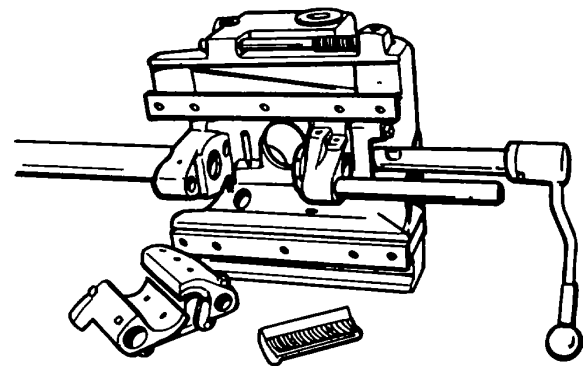
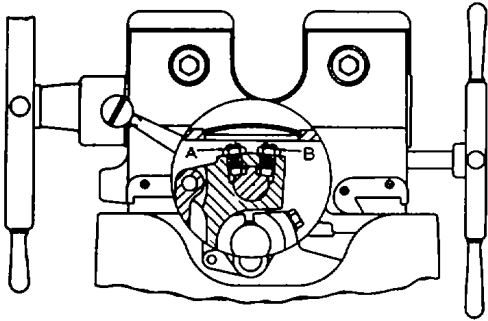

Figure 7
Figure 8
(3) After removing, place the carriage on a bench in a convenient working position as illustrated by Figure 7. Remove the welsh plug in the top of the carriage and loosen screws A and B, Figure 8, until the leadscrew operating shaft can be withdrawn from the leadscrew jaw. Loosen the retaining screw and withdraw the lower leadscrew jaw shaft so the entire jaw assembly can be removed. The leadscrew nut segments can now be easily disengaged by removing three screws. Note that each segment is positioned in the jaw by a locating pin.
(4) To replace the jaw assembly, it is necessary to remove the leadscrew self oiling mechanism. Also, it may be necessary to adjust the nut adjusting bushing to eliminate excessive end play between the carriage and the nut segments. See Leadscrew Nut Segments.
(5) After the carriage has been returned to the machine, the leadscrew nut lever will require adjustment to provide the proper overtravel. To accomplish this, close the leadscrew nuts on the leadscrew and loosen the lock nuts on screws A and B as shown in Figure 8. Withdraw screw A several turns and tighten screw "B" until there is no overtravel or movement in the leadscrew lever. Then, loosen screw B 1/6 of a turn and tighten screw A. Seat the lock nuts on both screws to lock the adjustment.
(6) If the leadscrew lever will not lock when the nuts are closed on the leadscrew, loosen screw B and tighten screw A until the lock will move into position. Then proceed as described above to adjust the lever for overtravel.